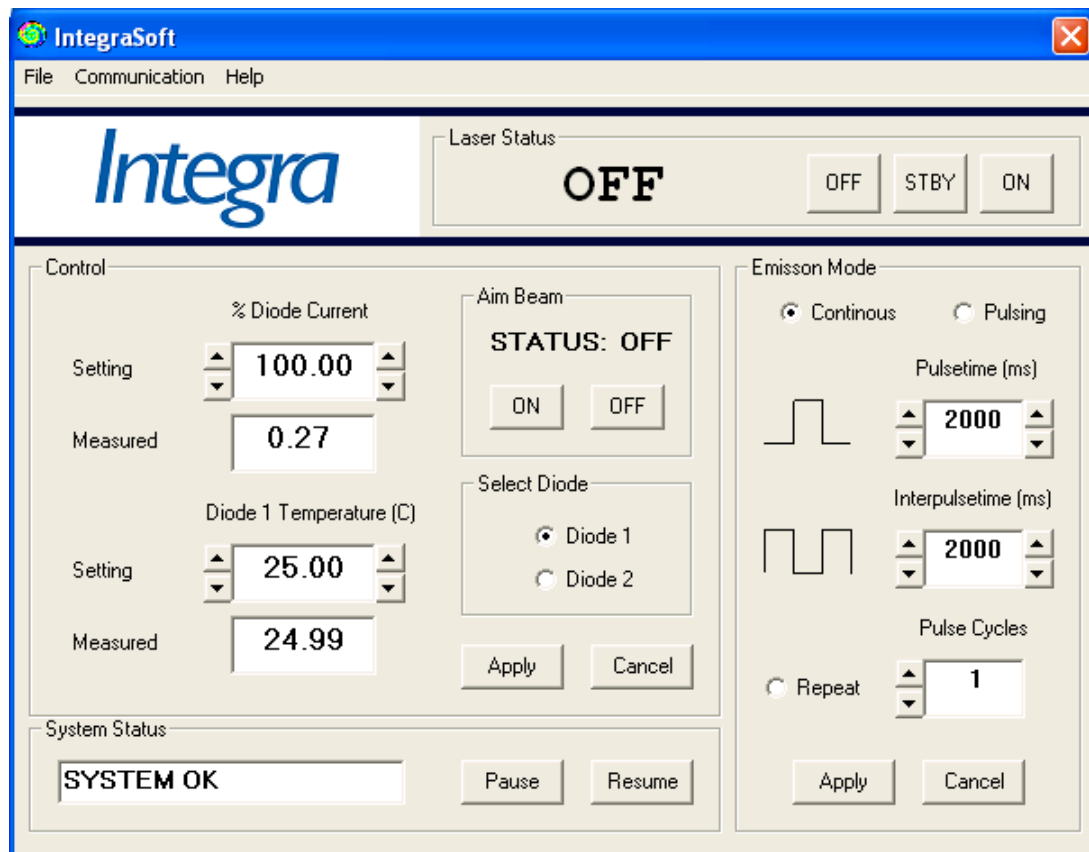

Figure 8: IntegraSoft main window.
6. Once the application has completed startup and successfully communicated with the Spectra-Physics laser, the window will appear similar to that shown in Figure 8.